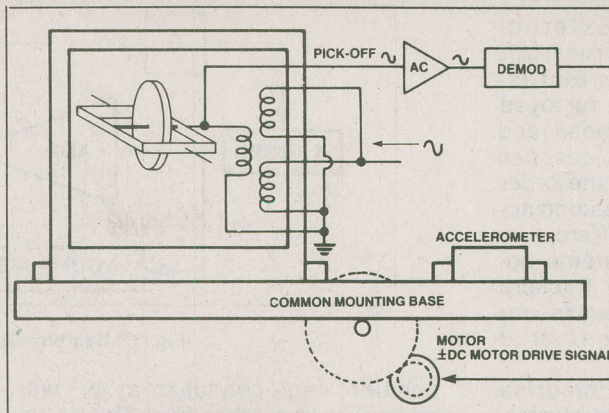

Fig. 10 Gyro-to-platform stabilisation loop, general arrangement.
celerometers do not, and therefore must be stabilised. This is achieved by mounting the gyros and accelerometers to a common platform. As the gyro case is attached to the same assembly as the accelerometers, their angular movement reflects the displacement between the gyro case and the rotor. These changes in movement are detected and held to a tolerable level, which in turn stabilises the platform. The application of this technique is detailed in Figure 10; however, the circuit shown is for one axis (X) only.